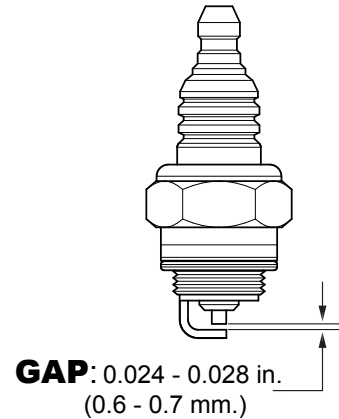

Figure 34. Spark Plug Gap
1. Remove and clean the spark plug (Figure 34), then adjust the spark gap to 0.024 ~0.028 inch (0.6~0.7 mm). This unit has electronic ignition, which requires no adjustments.